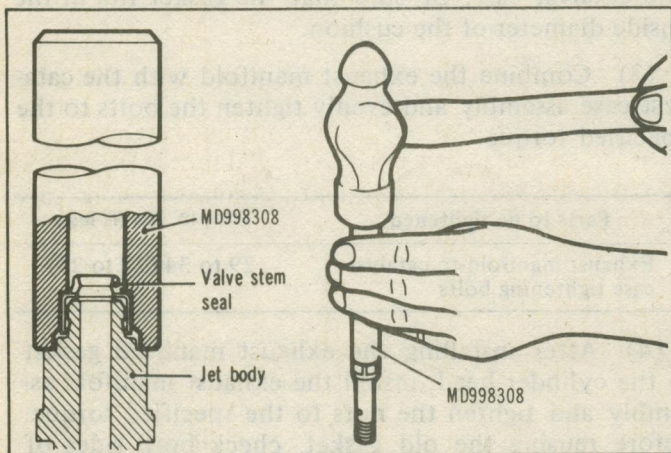

Fig. 12 Installing the Jet Valve Stem Seal
(1) Install the jet valve stem seal onto the jet body, using the jet valve stem seal installer (special tool MD998308). DO NOT reuse old jet valve stem seal. (Fig. 12)